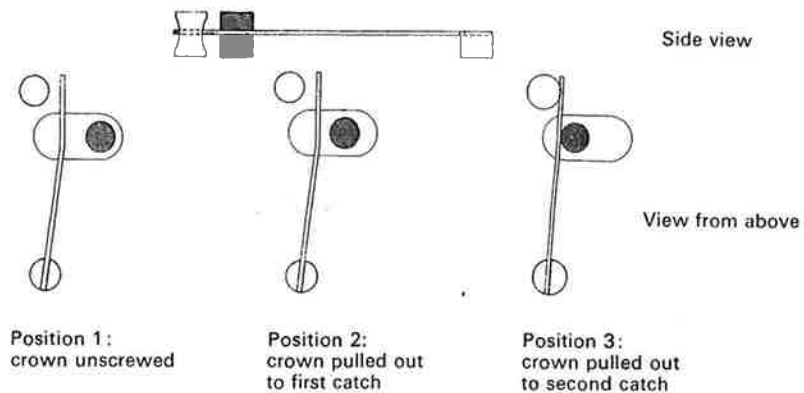

Fig. 12
- 9.9. Check the stop-second function (Fig. 12).